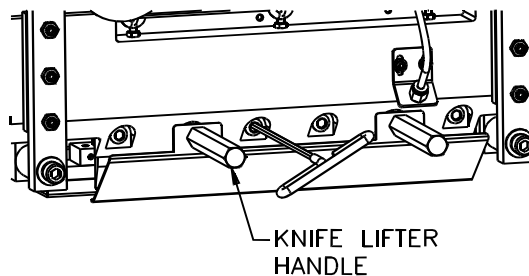

Figure 4-11. Knife Removal
6. Place the knife lifter on top of the knife bar and align each lifter handle with the holes from which the two knife bolts were removed in the previous step. Turn the handles clockwise until the lifter is securely fastened to the knife bar as in Figure 4-11.